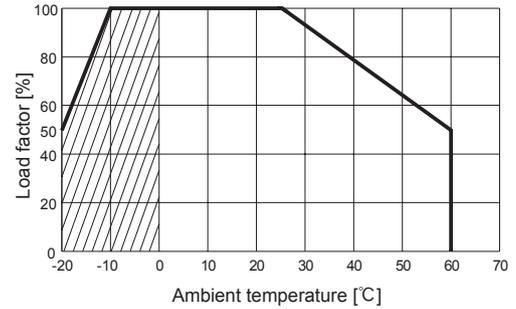
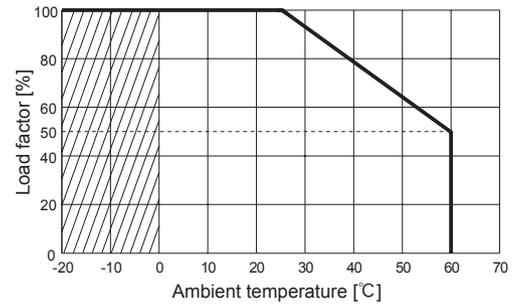

Fig.5.16 Ambient temperature derating curve for PLA300F (Option-F4)
Fig.5.17 Ambient temperature derating curve for PLA600F (Option-F4)
- The differences from the standard fan versions are shown in Fig. 5.16 - Fig. 5.17.